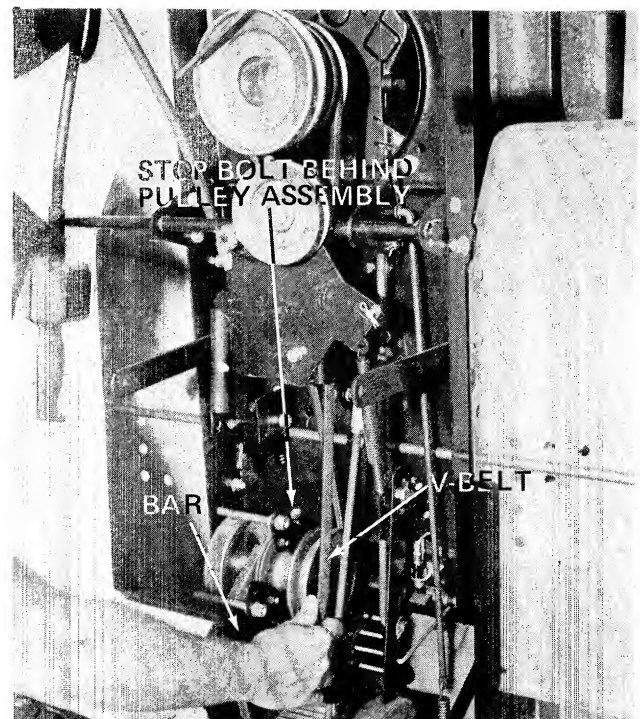

FIGURE 21
6. Using a bar or large screwdriver, pry the pulley assembly towards the front of the tractor and unhook the belt from the pulley. See figure 21.